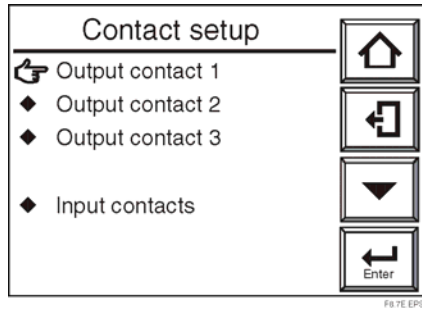

Figure 8-7 Contact Setup Display
3. Select the Contact setup in the “Commissioning” (Setup) display screen. The Contact setup display shown in Figure 8-7 appears.